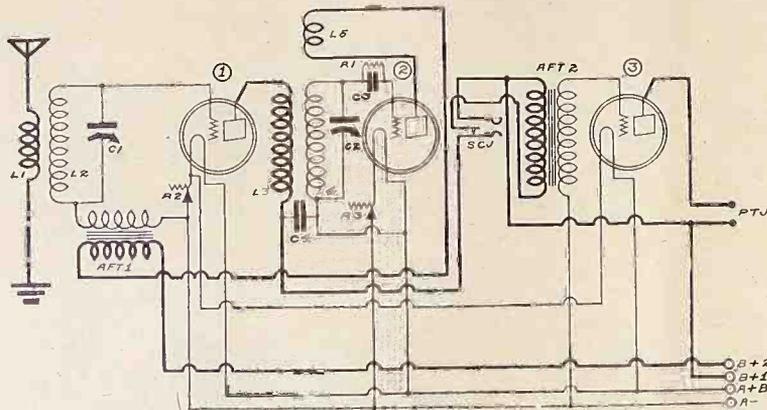

FIG. 423
(1)—The diagram of such a receiver is shown in Fig. 423. (2)—Yes. (3)—You will need two .0005 mfd. variable condensers, a high (6 to 1) and a low ratio (3 to 1) audio frequency transformer, a 10 ohm and a 20 ohm rheostat, a .00025 mfd. grid condenser, a 2 megohm grid leak, a .001 mfd. fixed condenser C4, tubes, etc. The variable condensers shunt the secondaries of the RFT and the tuner. The high ratio AFT (AFT 2) is used in the amplifier stage, while the low ratio AFT (AFT 1) is used in the reflex stage. The 10 ohm rheostat controls the filaments of the RF-AF and the AF tubes, while the 20 ohm rheostat controls the filament of the detector tube. The single circuit, closed jack is used at the RF-AF output. Phone tip jacks PTJ, are used in the output of the last tube. C4 is a by pass condenser. Use the 01A type tubes throughout, with a 6 volt A battery for filament supply. The plates of the amplifier tubes receive about $67\frac{1}{2}$ to 90 volts, while the plate of the detector tube should receive about 45 volts. These voltages are purely experimental, they depending wholly upon the individual characteristics of the tubes. Care should be exercised, when connecting up the grid returns. The returns of the amplifier tubes are made to the F minus, while the detector return is brought to the F plus.